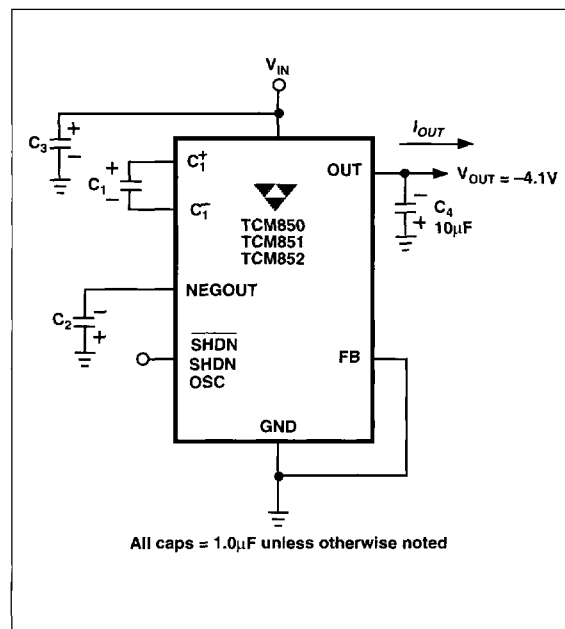
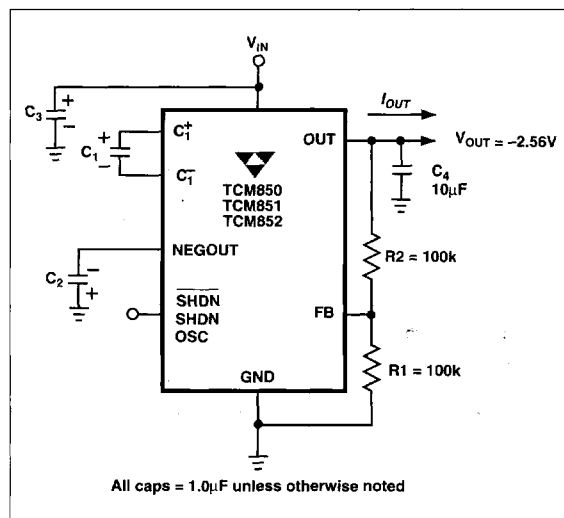

Figure 3. TCM850/851/852 Standard Application
Figure 4. TCM850/851/852 Adjustable Application
3. $I_{OUT} = 0$ mA or 5mA. Reference Figures 3 and 5.
The TCM850/1/2 operate in the fixed output voltage mode ($V_{OUT} = -4.1\text{V}$) when the FB input is grounded (Figure 3). The output voltage can be adjusted by connecting FB to the midpoint of a resistive voltage divider from OUT to GND (Figure 4). Care must be taken to allow a minimum of 1.0V across the linear regulator for proper regulation. The output voltage is calculated using the formula below (R_2 should be chosen to be between 100k Ω and 400k Ω):